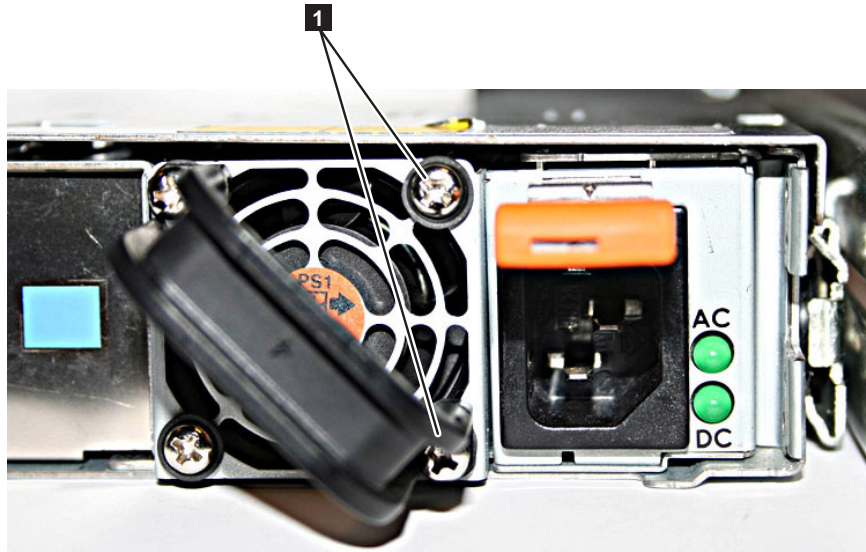

Figure 18. The SAN Volume Controller 2145-8G4 before you attach the cable retention bracket
1. With the node powered off and the power cable removed, loosen and remove the two screws **1** on the right side of the rear plate that covers the power supply fan unit, as shown in Figure 18.